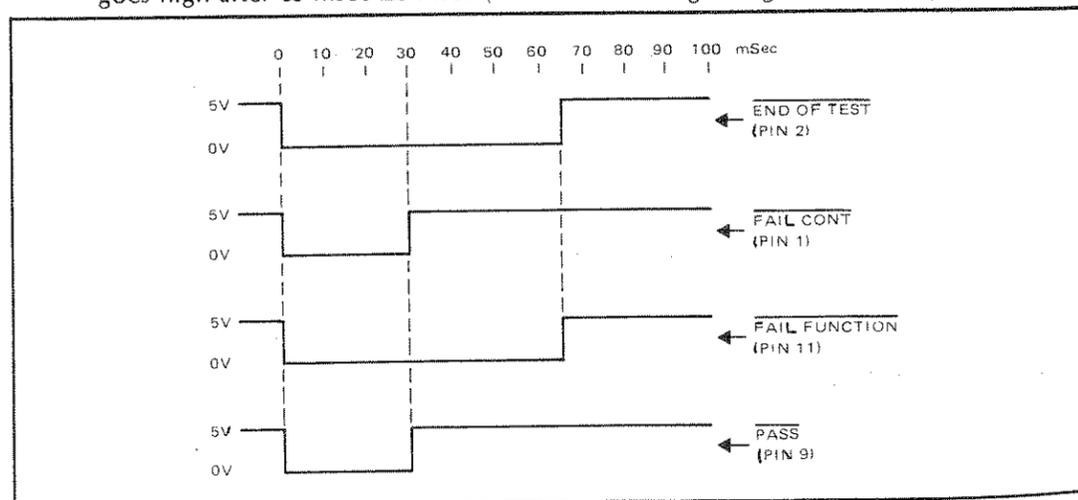

Figure 4-6. Automatic Handler Signal Timing
- e. Adjust scope trigger until the  $\overline{\text{EOT}}$  signal stabilizes. Using the horizontal position control, move the signal so that beginning of trace is in a convenient location. Verify that the  $\overline{\text{EOT}}$  signal is low for about 65 ms (see Figure 4-6).
- h. Connect the CH B Probe to the  $\overline{\text{FAIL CONT}}$  line (pin 1 on the J5 cable). Compare the signal to that shown in Figure 4-6. Verify that the  $\overline{\text{FAIL CONT}}$  signal goes high after 30 msec  $\pm$ 5 msec (referenced to beginning of  $\overline{\text{EOT}}$  Trace).
- j. Compare the signal displayed to that shown in Figure 4-6. Verify that the  $\overline{\text{FAIL FCN}}$  signal goes high after 65 msec  $\pm$ 5 msec (referenced to beginning of  $\overline{\text{EOT}}$  trace).